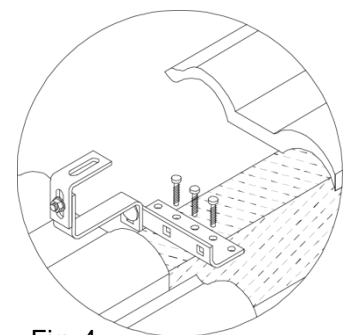

Fig. 4
- With the three press cuts on the base line of the hook (1) the lateral displacements can be compensated (Fig.4).
- The brackets of the hook (1) can be adjusted to the height of the roof battens and/or tiles using the two square neck carriage bolts. The distance between the panels and the roof should be kept as small as possible. The hooks are fixed to the rafters using the frame screws (2), (Fig. 4 and 5).